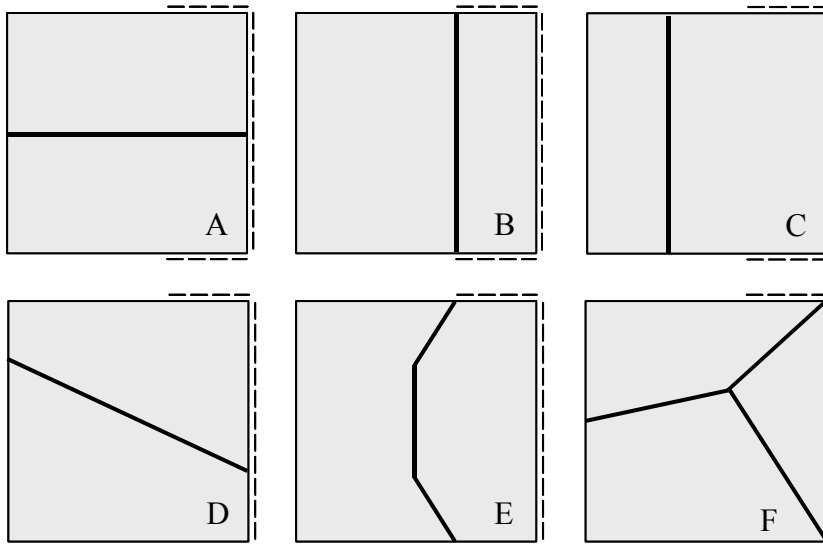
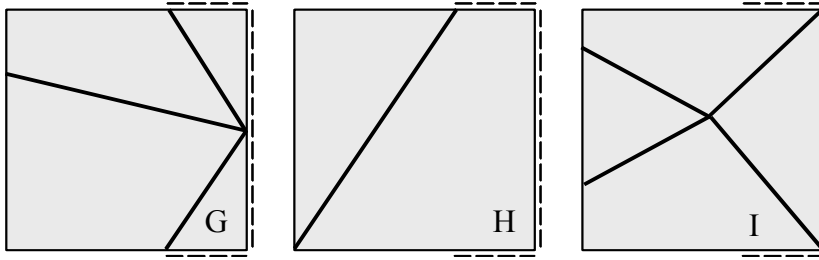

Figure 4. Yield line patterns of problem 2a (see also Figure 5)
Figure 5. Yield line patterns of problem 2a
- a We consider the yield line patterns of Figure 4 and Figure 5. Which of these patterns give kinematically possible mechanisms (2 points).